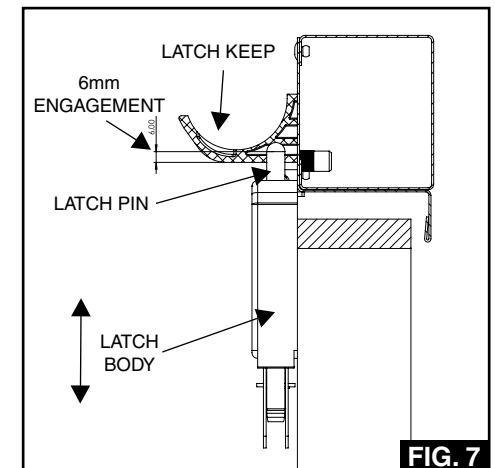

FIG. 7
9. Remove the top latch keeps/spring support brackets from the lintel (See Fig 7).
From inside garage with door fully closed, check that latch pin has approximately 6mm engagement in latch keep (See Fig 7).